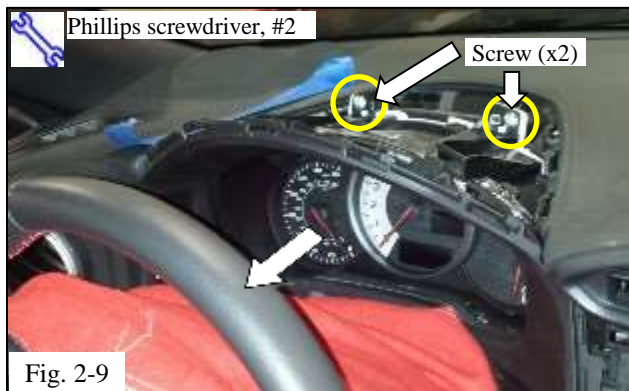

Fig. 2-9
(1) Use a Phillips head screwdriver to remove the 2 screws securing the instrument cluster in place (Fig. 2-9).